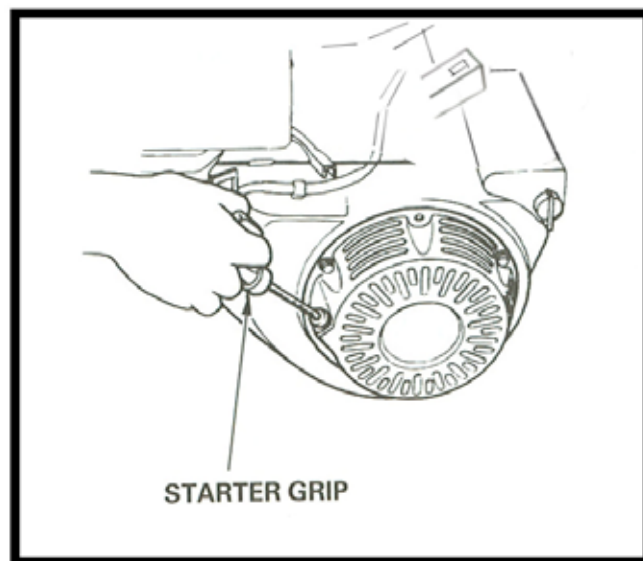

Figure 6-2
5. Wearing eye protection, slowly pull the recoil start grip handle (See Figure 6-2) in an upward motion. This should force the fuel out of the cylinder cavity through the spark plug hole. Caution: This gasoline spraying out of the cylinder cavity is very flammable, use extreme caution and make sure there are no sparks or flames nearby.